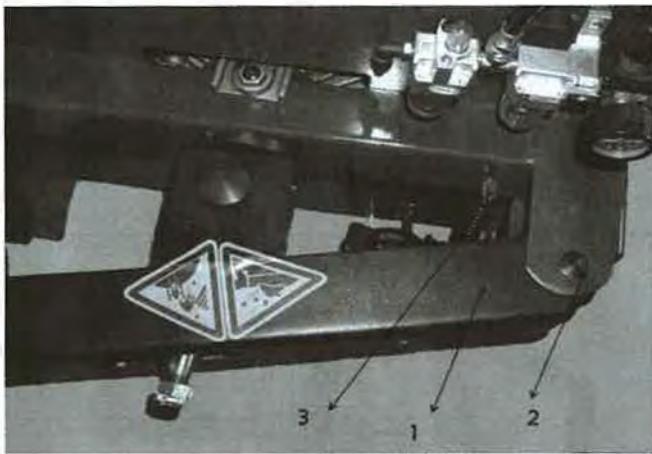

Fig 4-6
4.2.9 Insert the bead breaker arm (1) into the bead breaker bracket on the body and align the two holes and mount the bead breaker arm pin shaft (2) and also elastic retaining ring to positioning. Hang the spring (Fig 4-6-3) as shown in Fig 4-6.